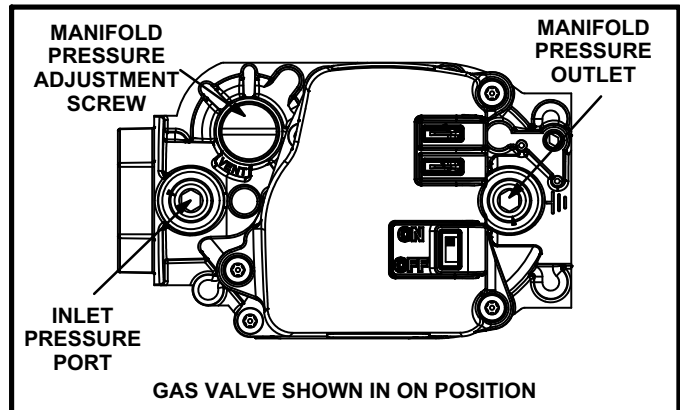

FIGURE 61
#### Gas Valve Operation (Figure 61)
- 6 - Move gas valve switch to **OFF**. See figure 61.
- 8 - Move gas valve switch to **ON**. See figure 61.
When testing supply gas pressure, use the 1/8” N.P.T. plugged tap or pressure post located on the gas valve to facilitate test gauge connection. See figure 61. Check gas line pressure with unit firing at maximum rate. Low pressure may result in erratic operation or underfire. High pressure can result in permanent damage to gas valve or overfire.